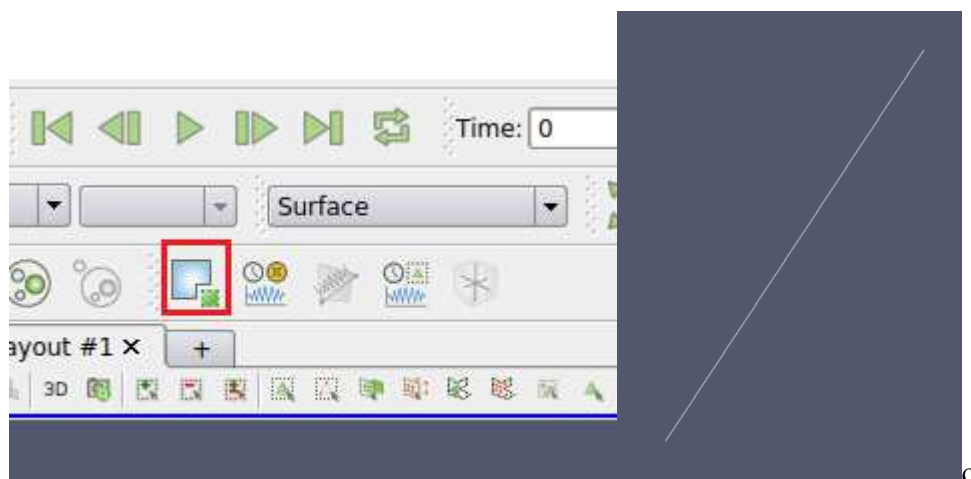

Figure 2.15: Extracting the edge using the “Extract Selection” tool.
- 8) Now click the “Extract Selection” under “Data Analysis” toolbar as shown in figure 2.15 and click “Apply” on the “Properties” tab.